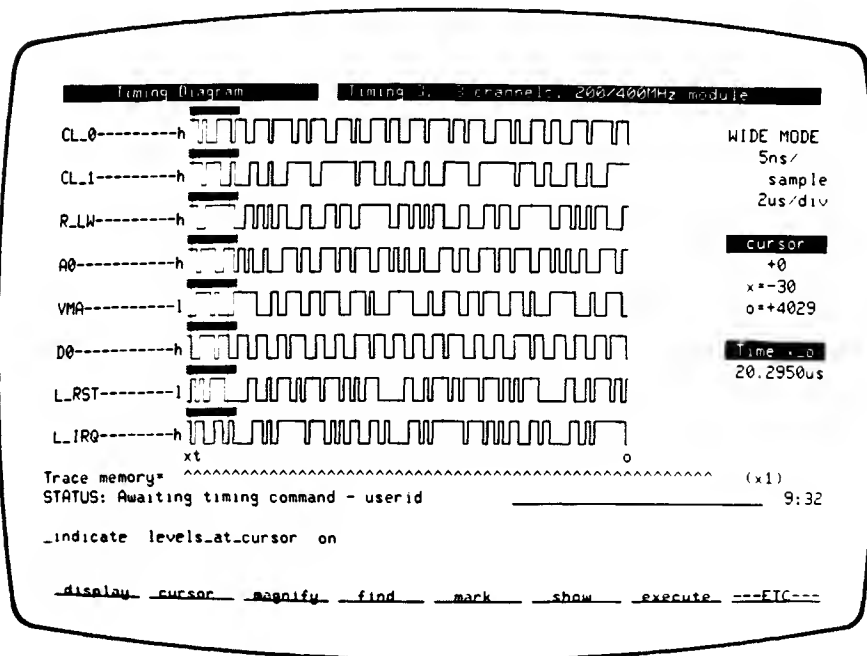

Figure 3-6. Timing Diagram Display
12. To obtain trigger recognition, the timing analyzer must first find the trigger condition not-true. Then it will recognize trigger on the first occurrence of the trigger being true. If trigger recognition occurs, the timing analyzer will complete a trace. If the trigger you specified is not found in the incoming data, press the *halt* softkey and RETURN. The screen will show a timing diagram similar to that in figure 3-6, except that the levels (h or l) will not be present at the end of each label. To show the levels, press the ---ETC---, *indicate, levels, on* softkeys, then the RETURN key. The level indicators will now be present. The 'h' and 'l' indicate whether the associated trace is high or low at the position of the cursor.